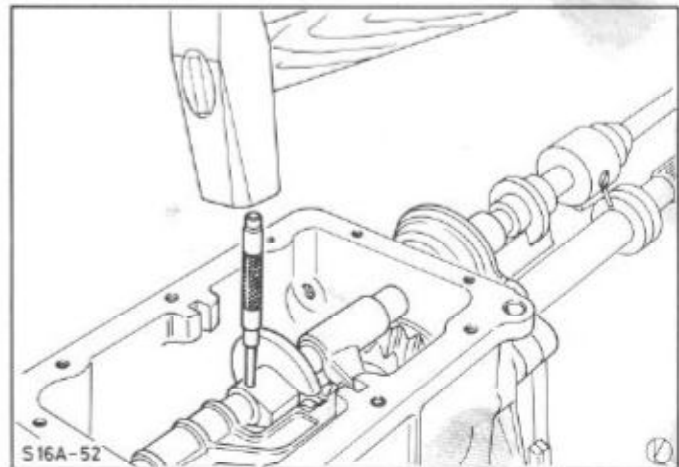

Fig.120. Drive out roll pin.
11. Drive the roll pin out of the selector pin boss and shift rod, Fig.120.